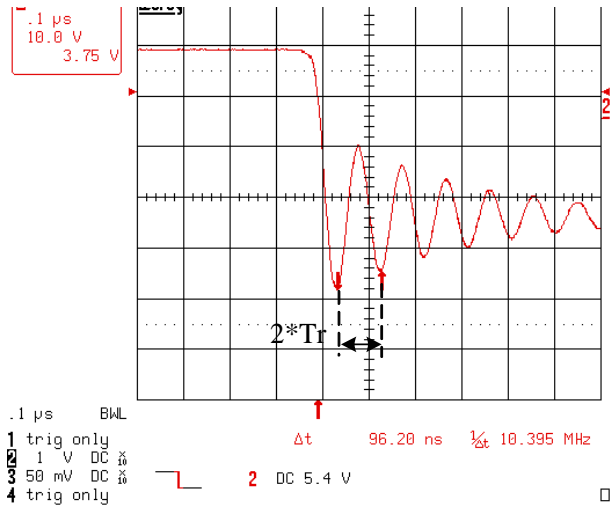

Figure 26. Diode Voltage Connecting  $C_{dsn}$
- (b) Find a capacitor ( $C_{dsn}$ ) value that makes the resonance period double ( $2*Tr$ ) when connected in parallel with the diode, as shown in Fig. 26.
- (c) Calculate the snubber resistor ( $R_{dsn}$ ) by (14).